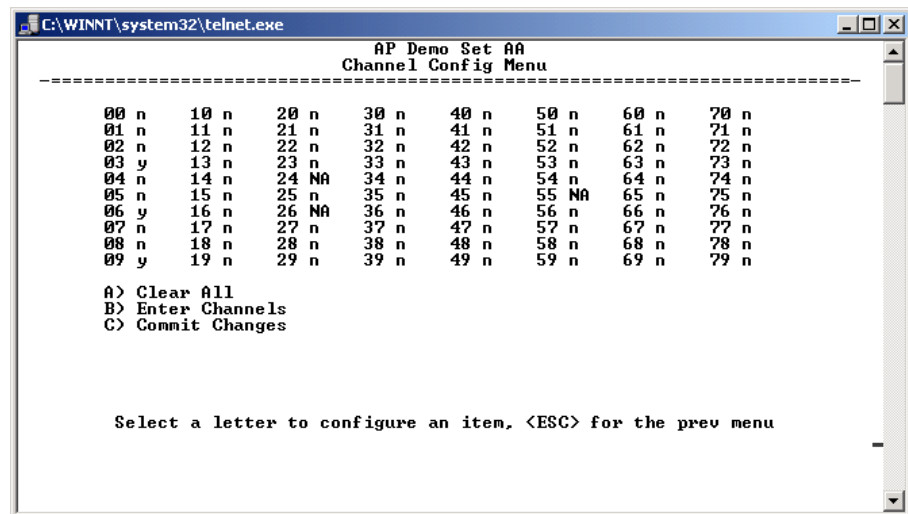

Figure 3-20. Channel Config Submenu
- **Channel Config**—Brings up a submenu (Figure 3-20) that displays.